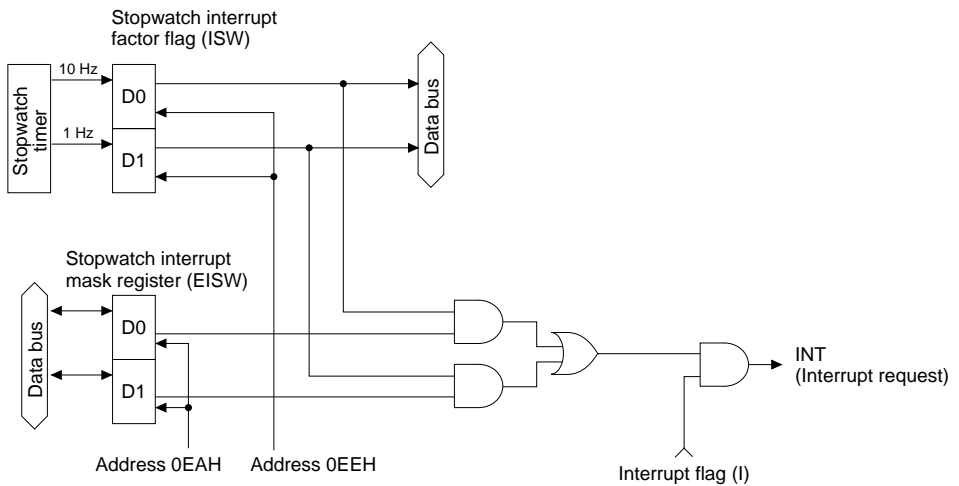

Fig. 3.11.4
The flag is reset, when it is loaded by software. (See Figure 3.11.4.)
- EISW1** This register enables or masks the 1 Hz stopwatch interrupt. The CPU is interrupted if it is in the EI state when the interrupt mask register (EISW1) is set to "1", and also the interrupt condition flag (ISW1) is "1". (See Figure 3.11.4.)
- EISW0** This register enables or masks the 10 Hz stopwatch interrupt. The CPU is interrupted if it is in the EI state when the interrupt mask register (EISW0) is set to "1", and the interrupt condition flag (ISW0) is "1". (See Figure 3.11.4.)